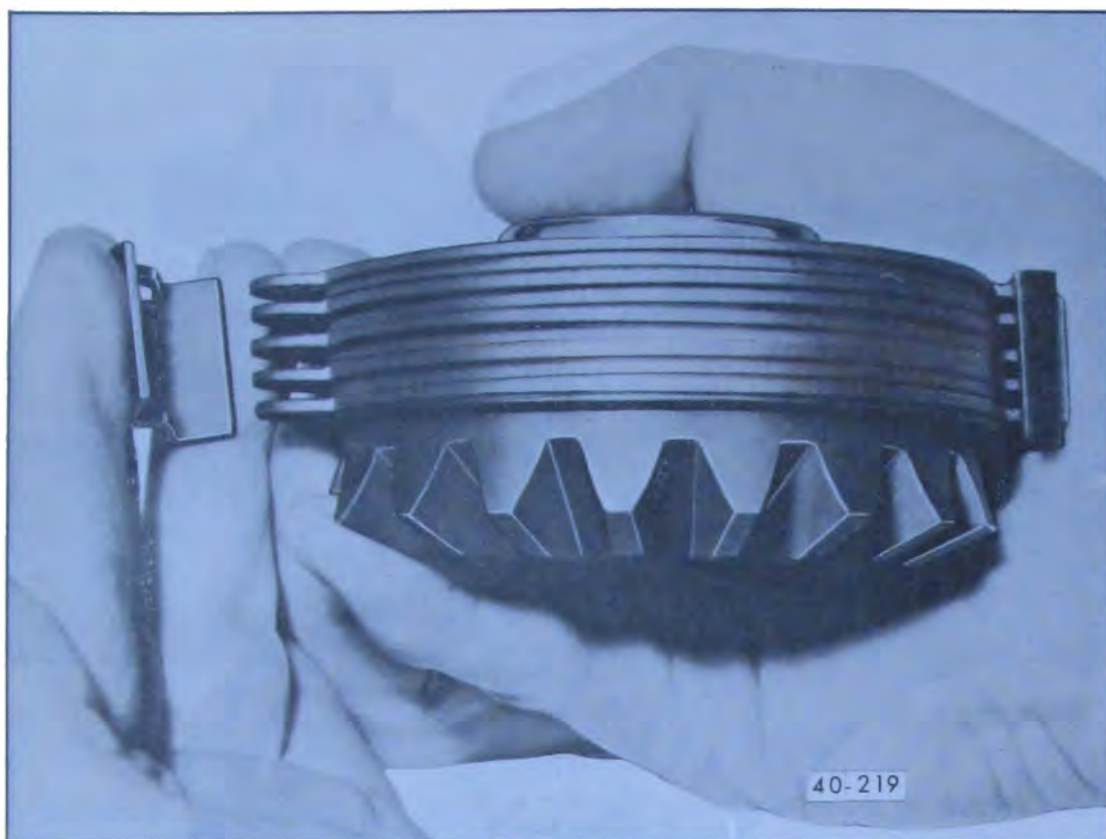

Figure 40-220—Assembling Clutch Pack
2. Alternately install a clutch plate and a clutch disc on each side gear totalling 5 clutch plates and 4 clutch discs in each clutch pack. See Figure 40-220.